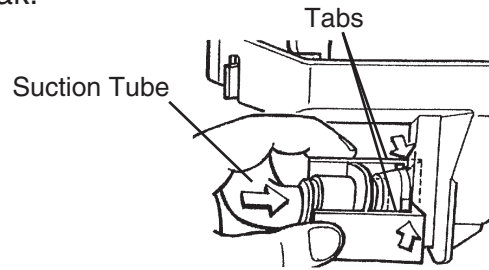

Fig. 27
- 4) Reconnect the suction tube as illustrated. See Fig. 27. Make sure the tabs lock into place; a loose fitting may cause a water leak.